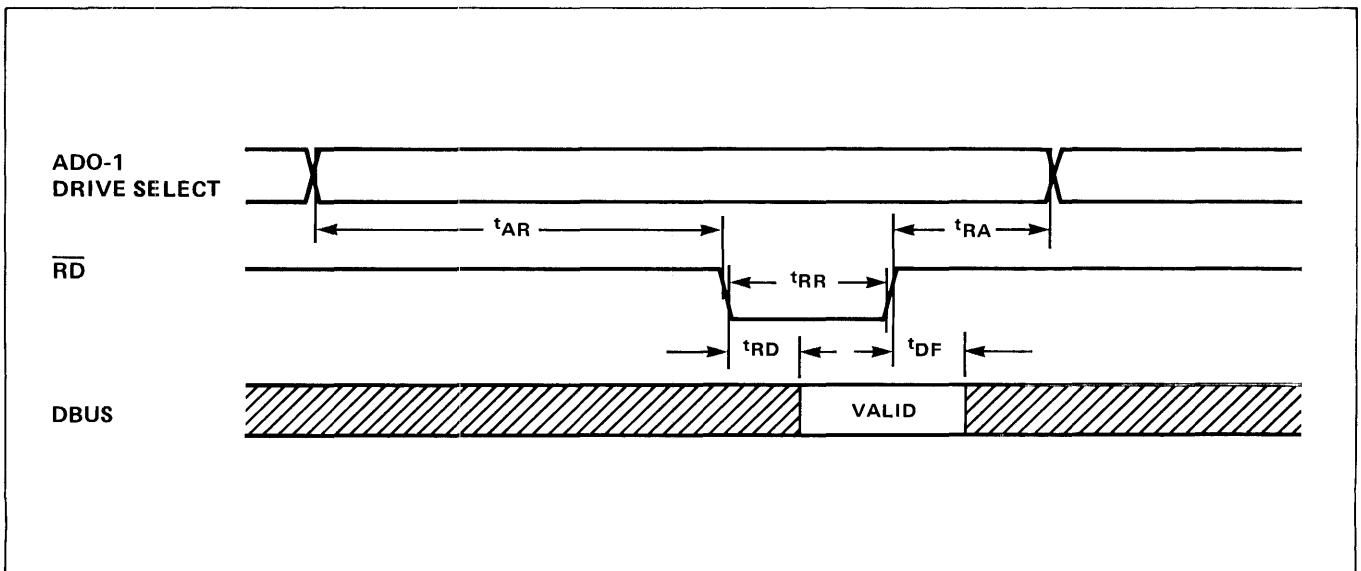

Figure 4-16. Register Read Timing
2. *Register Read Timing* Register read timing is shown in Figure 4-16. The AC characteristics are listed in Table 4-21.